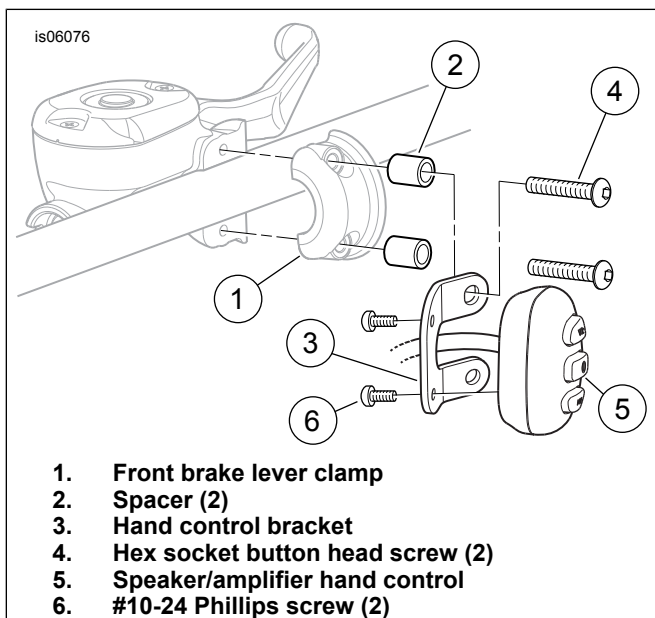

Figure 2. Hand Control and Bracket Installation
1. See Figure 2. Remove the front brake lever clamp screws from the vehicle. Remove and retain the clamp (1). The screws can be discarded.
2. Obtain the hand control bracket (3), two spacers (2), two #10-24 Phillips screws (6) and:
- for **2004 and later Sportster models**: two M6 x 45 mm long hex socket button head screws (18) from the kit.
- for **ALL OTHER models**: two 1/4-20 x 44.4 mm (1.75 in) long hex socket button head screws (18) from the kit.
3. Route the hand control (5) wire harness through the center of the hand control bracket (3) as shown.
5. Install the hand control (5, part of the wire harness assembly) to the bracket with the #10-24 screws (6), and tighten securely.